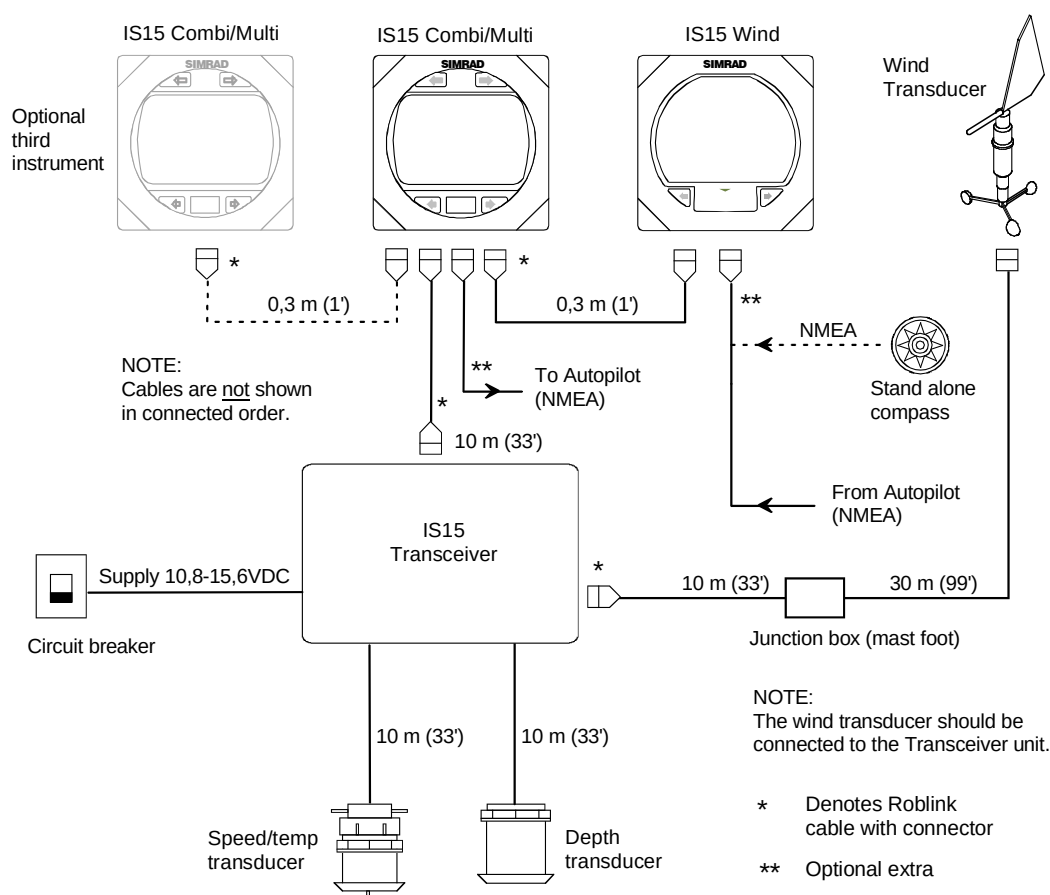
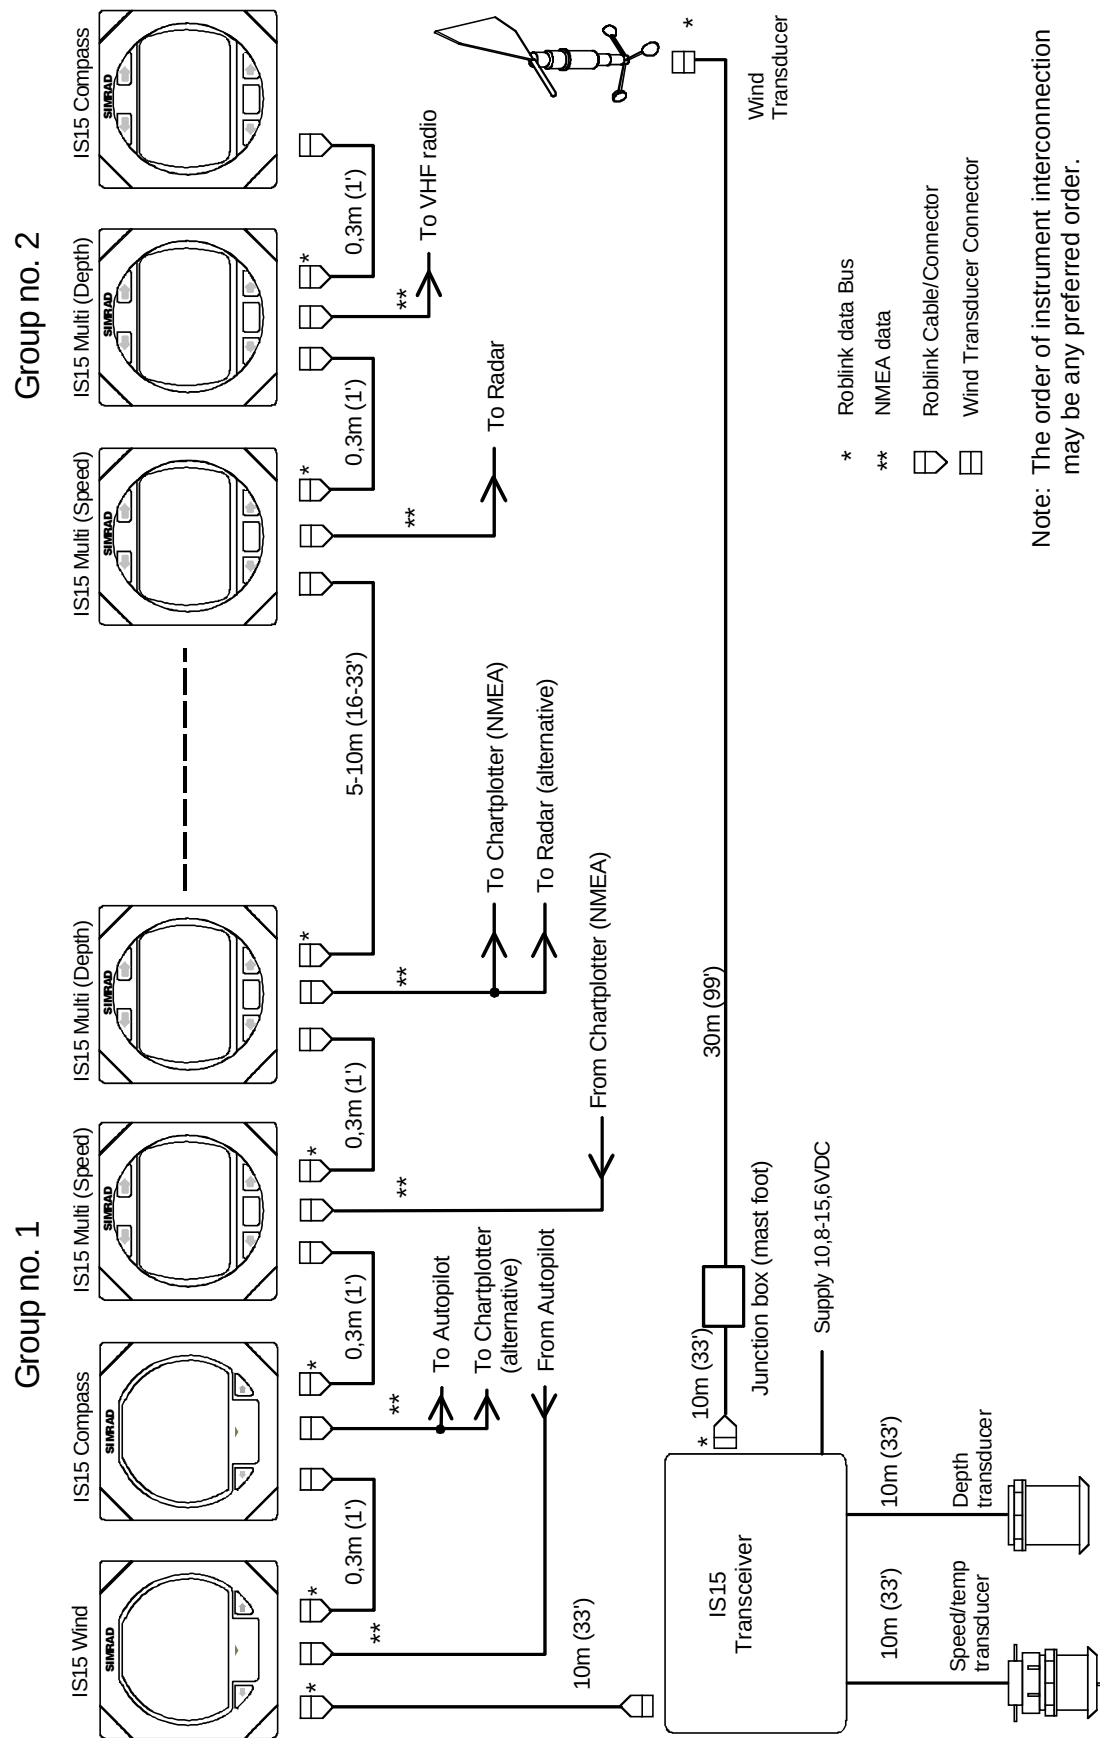

Figure 5-4 IS15 Wind – IS15 Combi (Tri-data) System layout
Figure 5-5 IS15 Instrument system – Cabling diagram
3. When connected to an IS15 Tri-data system as shown on Figure 5-4 speed is available on Roblink format and heading on NMEA format.
An example of a fully equipped IS 15 system is shown in Figure 5-5. See also the Interconnection – Principle diagram Figure 6-5 in the IS15 General Manual.
This will provide the chart plotter also with wind information if the Wind/Tack instruments are part of the IS15 system, see Figure 5-4 and Figure 5-5. (Connect the chart plotter input to the optional instrument in Figure 5-4).